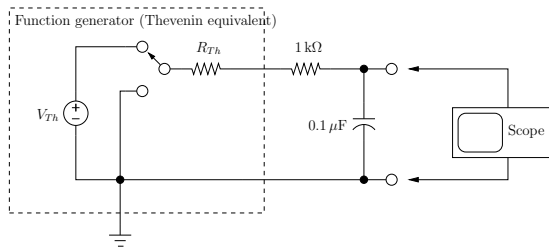

Figure 1: Function generator, set up to deliver a square wave output, connected to an RC circuit.
Assume the output resistance of the function generator (R_{Th} in figure 1) is 50Ω , and
2. Build the RC circuit of figure 1 on a proto-board, connecting the function generator and oscilloscope as indicated. Also use the second channel to monitor the output of the function generator. It may be best to trigger off this signal.